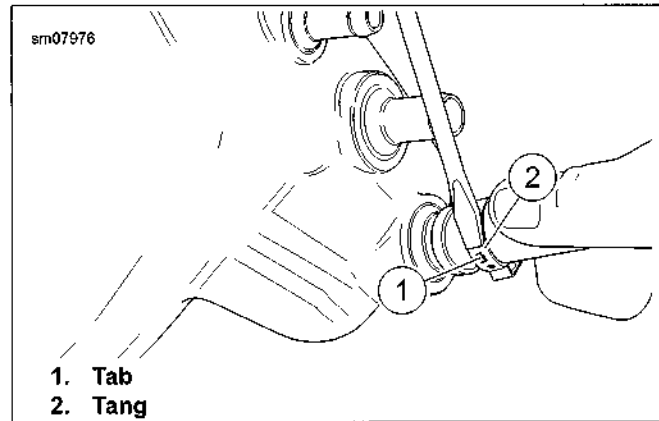

Figure 3-132. Removing Crimp Clamp
- See Figure 3-132. Push the tip of a small screwdriver under end of tang (2).